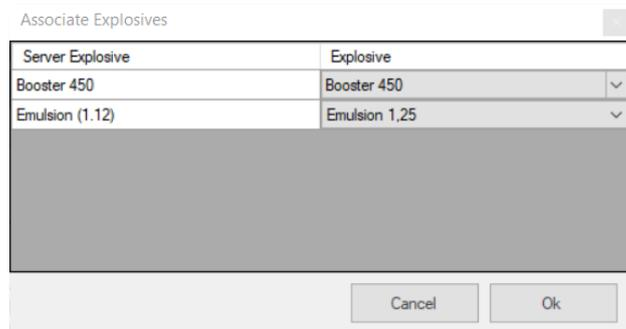

Figure 393 - Associate explosive window.
- This opens the **Associate Explosives** window where the user can select the correct explosive from a dropdown list, updating the server information with the explosive added in the database (Figure 393).